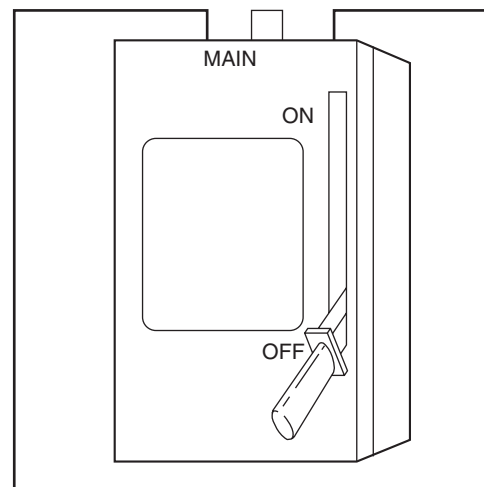

Fig. 3—Main Electrical Disconnect
4. Your multipurpose indoor thermostat is the control center for your heat pump system. You should familiarize yourself with its proper operation. Attempting to control the system by other means—for instance, switching the electrical supply power ON and OFF—may cause damage to the unit (See Fig. 3).